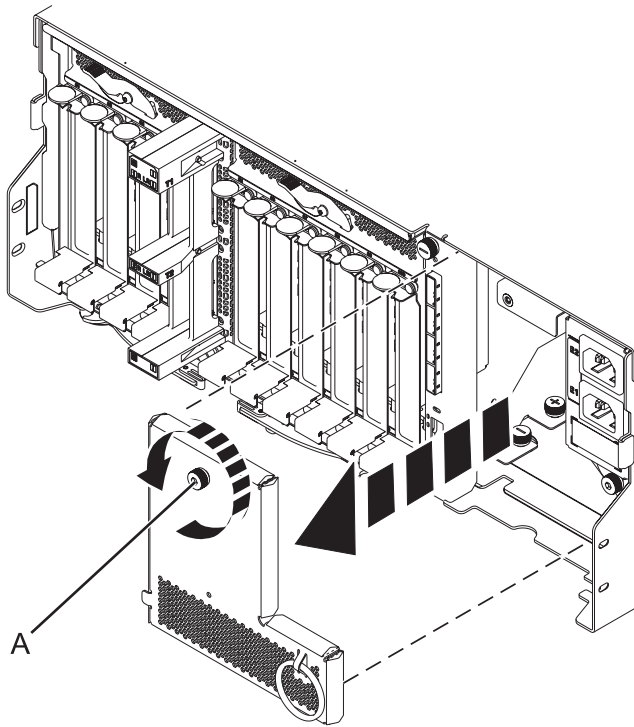

Figure 98. Removing the power cord plate
10. Remove the power cord plate by turning the thumbscrew (A) and pulling the plate away from the system, as shown in Figure 98.